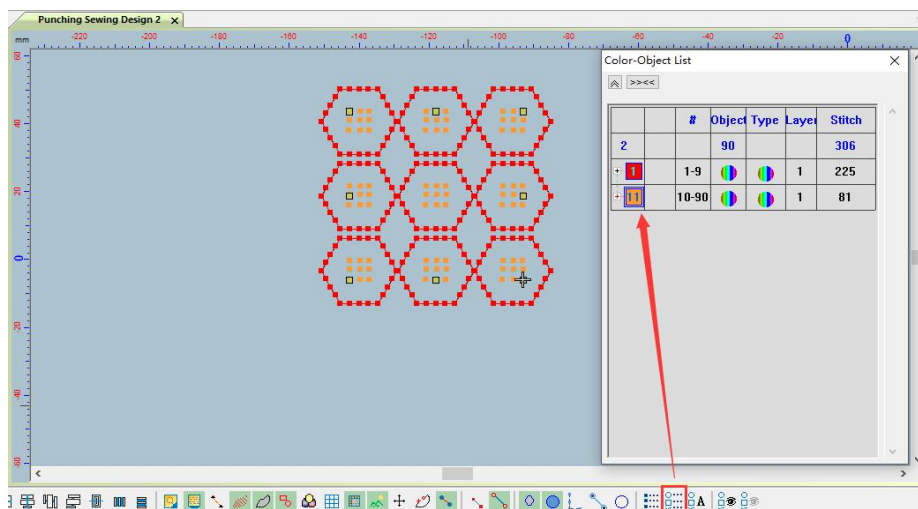

图 1 Picture1
Step 11: Select the punching part in the color object list as shown in Figure 1. After selection, right-click the punching scan (horizontal) position to set the parameters as shown in Figure 2, click OK and click the left mouse button to click the punching scan (horizontal)